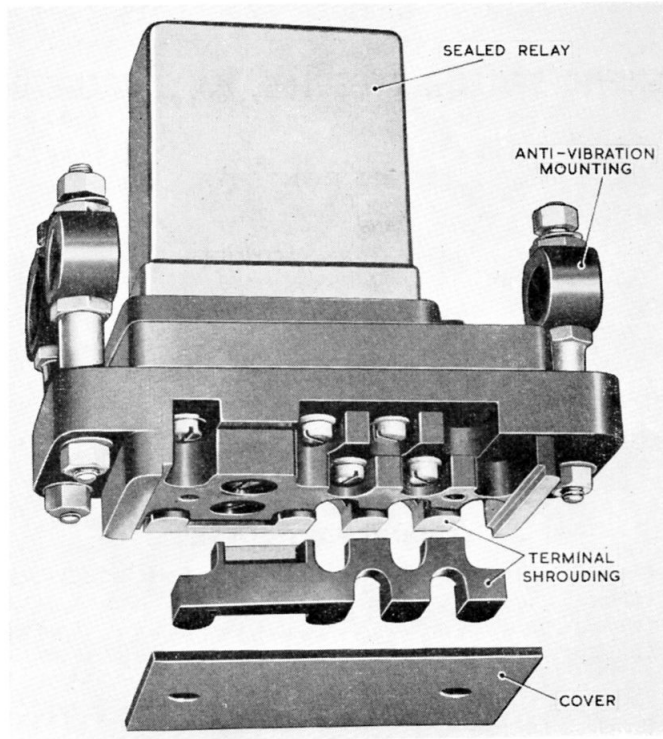

Fig. 1. Magnetic switch, Type 16B, No. 3
2. This switch (*fig. 1*) consists of a sealed relay, Type M1099 (Inter - Service Ref. Z530030) secured to a moulded Bakelite base plate having shrouded 6 B.A. terminals. The switch is designed for panel mounting, and is provided with three rubber anti-vibration mountings incorporating 4 B.A. fixing studs.